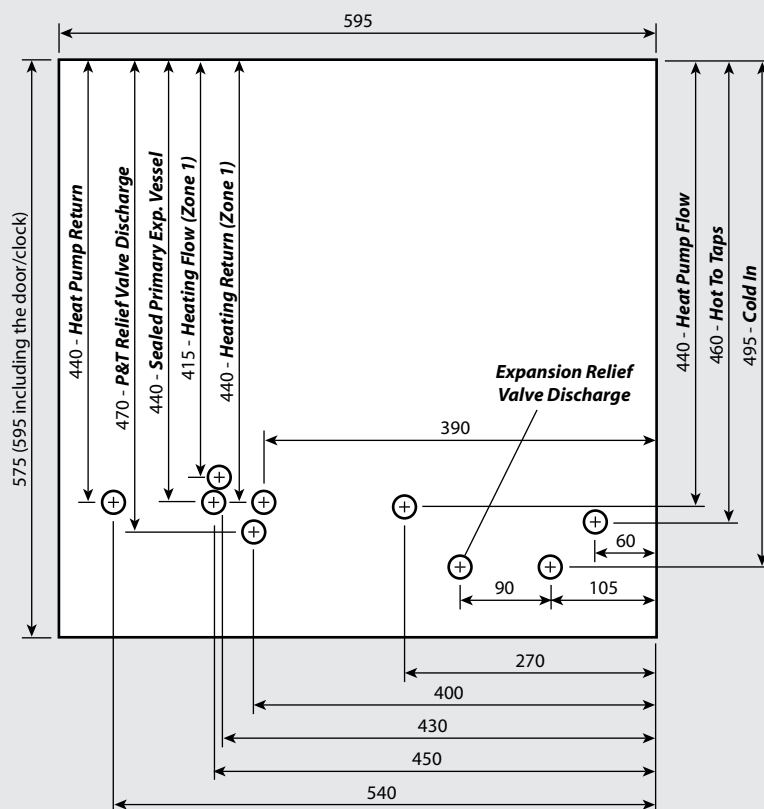

Figure 1.9
- A secondary hot water circulation system as shown schematically in figure 1.9.